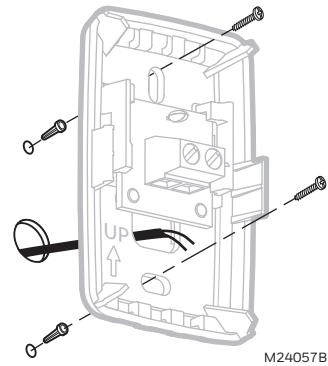

Fig. 69. Mount wallplate to wall.
5. Place wall plate over anchors, insert and tighten mounting screws see Fig. 69.